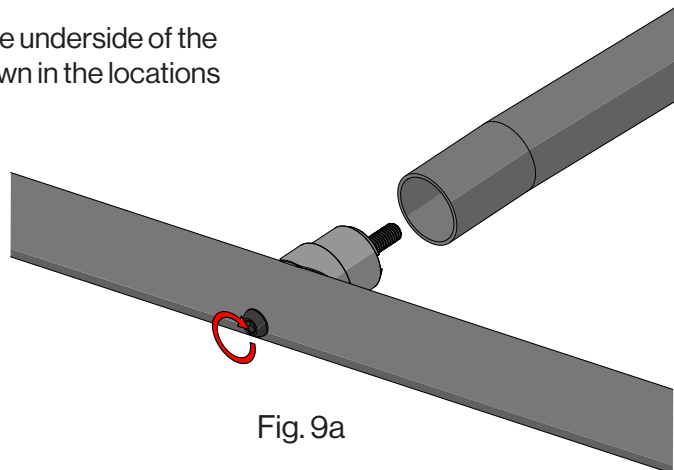

Fig. 9a
- A.** Line up the center supports with the holes in the side frame as shown in Fig. 9a. Using the provided hardware, start the screw a few threads, but do not tighten until the last bar is installed.